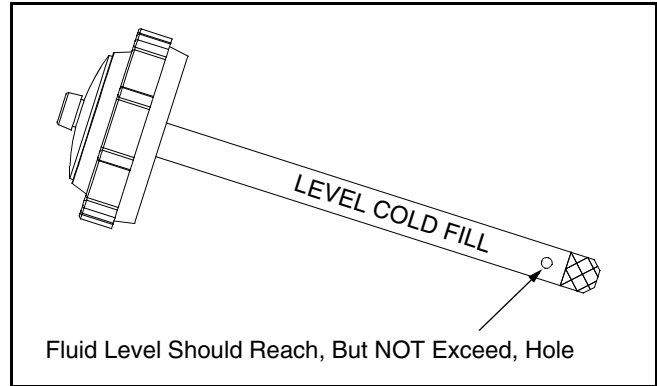

Figure 17
- Thread the dipstick/reservoir cap back onto the hydraulic reservoir before removing it again to check the level of the fluid level on the dipstick. Add hydraulic fluid as necessary. See Figure 17.